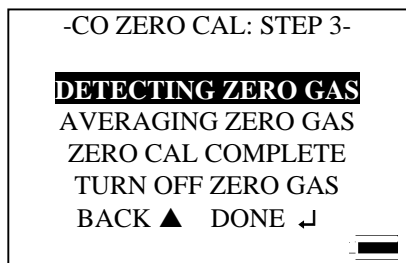

Figure 4-12: CO Zero Calibration Step 4
4. Turn the gas on (0.3 L/min). Make sure the cylinder is not empty. It should quietly “hiss” when it is on. Press the \downarrow key to begin zero gas calibration (Figure 4-12).